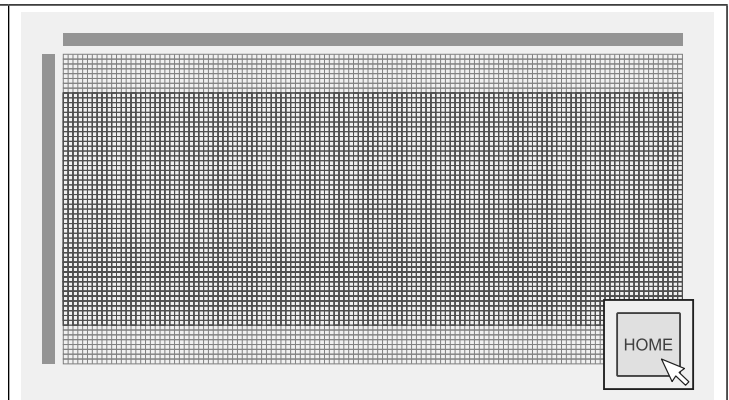

Fig. 90
2. Next click on the home screen icon. The size of the main editing area will change to 128x48 pixels, as shown in **Fig.90**.